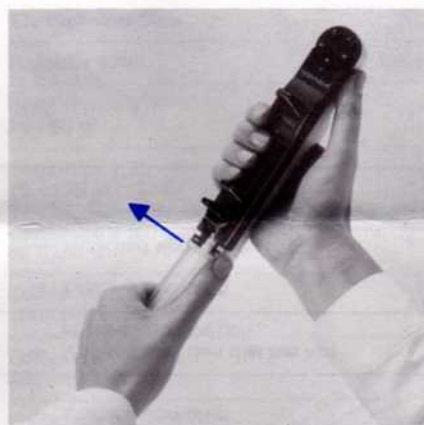

Figure 10: Removing the Combitip
- Press your thumb against the side of the Repeater and remove the Combitip (refer to Fig. 10).